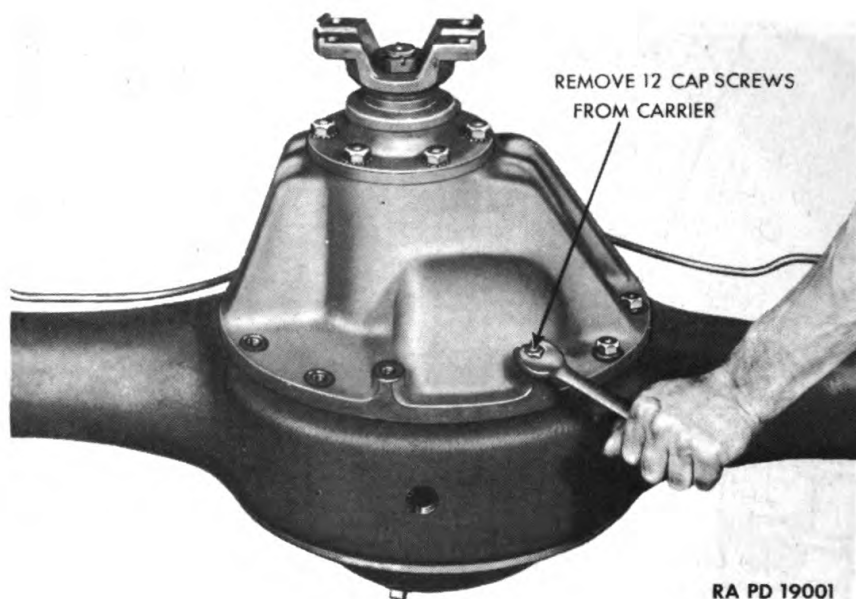

Figure 80 — Removing Differential Carrier Cap Screws
e. Remove Differential and Carrier. Remove 12 cap screws and lock washers from differential carrier flange (fig. 80). Attach chain to companion flange and, using hoist, lift differential and carrier from axle housing (fig. 40).
f. Disassemble Differential. With the exception of the bevel drive pinion and bevel drive gear ratios, the front and rear axle differentials are identical in construction. Therefore, for detailed disassembly instructions, refer to paragraph 28 O, (1) to (12).